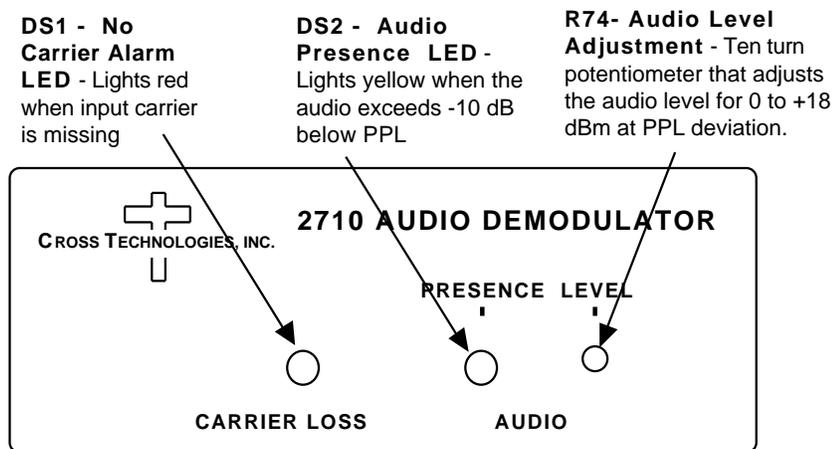

FIGURE 2.2 2710 Front Panel Controls and Indicators
2.2 Controls and Indicators - Figure 2.2 shows front panel controls and indicators.
- 4.) The audio output level is adjustable from 0 to +18 dBm at peak program level into a balanced 600 ohm output impedance with R74 (Figure 2.2).
- 5.) The alarm indicator DS1 (Figure 2.2) will illuminate when there is no carrier present.
- 6.) The audio presence indicator, DS2 (Figure 2.2) flashes on audio peaks greater than -10 dB below PPL.